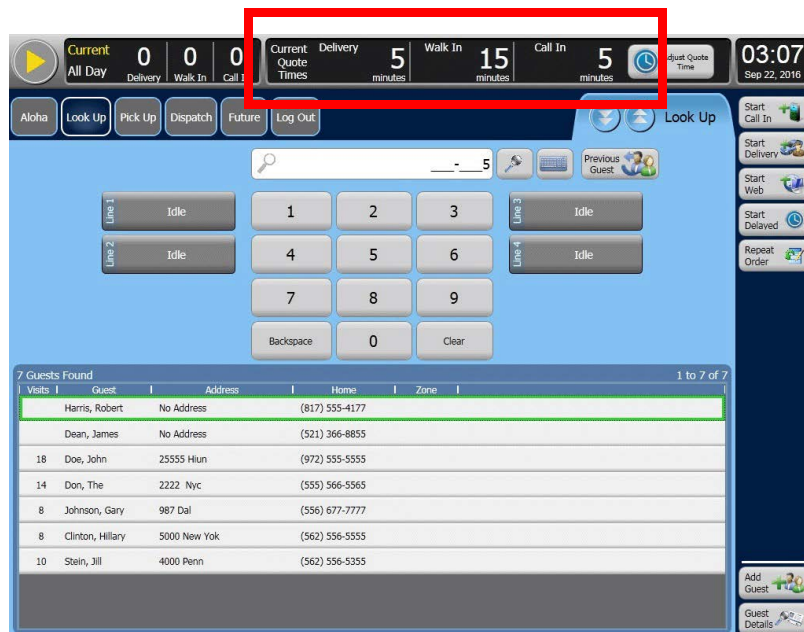

Figure 8 Aloha Takeout FOH Screen
1. From the FOH ATO screen (Figure 8), touch **Adjust Quote Time**.
When you use AK to override ATO quote times, the default quote time table is always in effect and dictates the times that appear on the ATO FOH screen (Figure 8). The values are based on the number of items cooking in the kitchen at any given time.